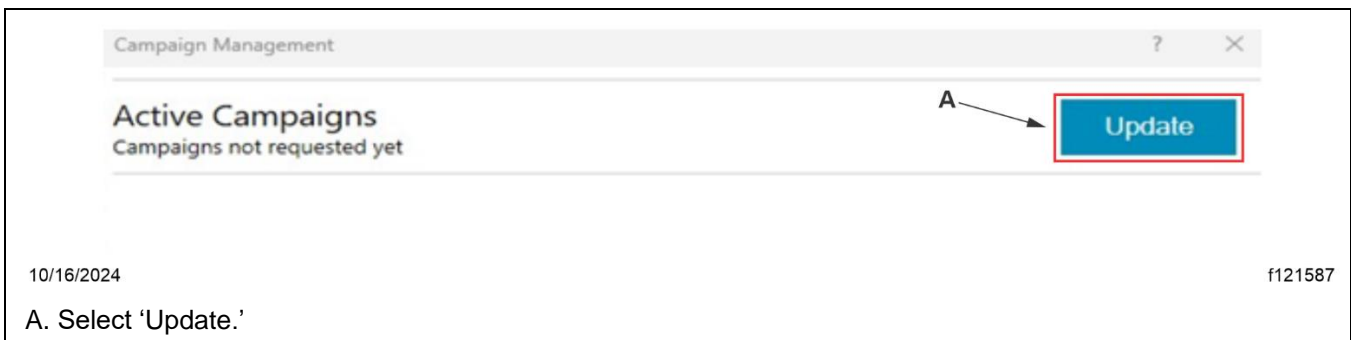

Fig. 4, Updating the Vehicle Record on the Server
9.2. The 'Campaign Management' window opens. Select 'Update' on the right-hand side of the window. The list of active campaigns corresponding to the VIN, if any, will be displayed. See Fig. 4.